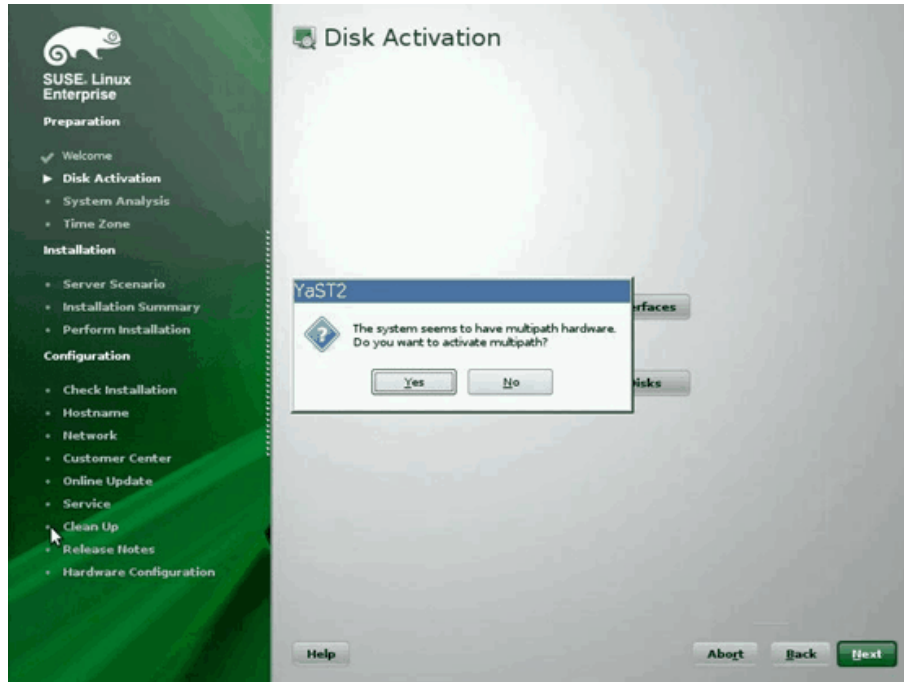

Figure 14-18. Disk Activation
10. YaST2 prompts you to activate multipath. Answer as appropriate (Figure 14-18).